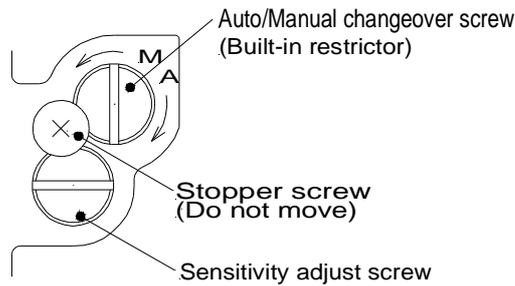

Fig.15 Pilot valve
- (1) To operate the diaphragm valve manually, turn the Auto/Manual changeover screw of pilot valve towards M. The supply pressure and OUT1 output are conducted and the stroke can be adjusted by using the supply pressure setting reducing valve.(Refer to fig.15 Pilot valve)
- (2) To operate based on the input current, tighten the Auto/Manual changeover screw towards A. The screw is tightened up in the A direction when the positioner is shipped from our plant. (Refer to fig.15 Pilot valve)